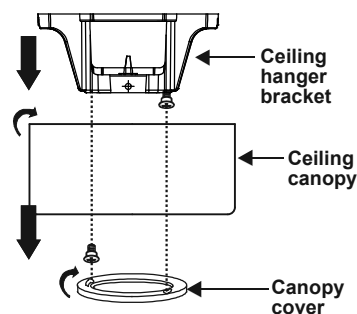

Figure 5
1. Remove the decorative canopy bottom cover from the canopy by turning the cover counter clockwise. (Fig. 5)
2. Remove the hanger bracket from the canopy by removing the 1 of 2 screws from the bottom of the hanger bracket and loosening the other one a half turn from the screw head. Next, turn the canopy counter clockwise to removing the hanger bracket from the canopy. (Fig. 5)